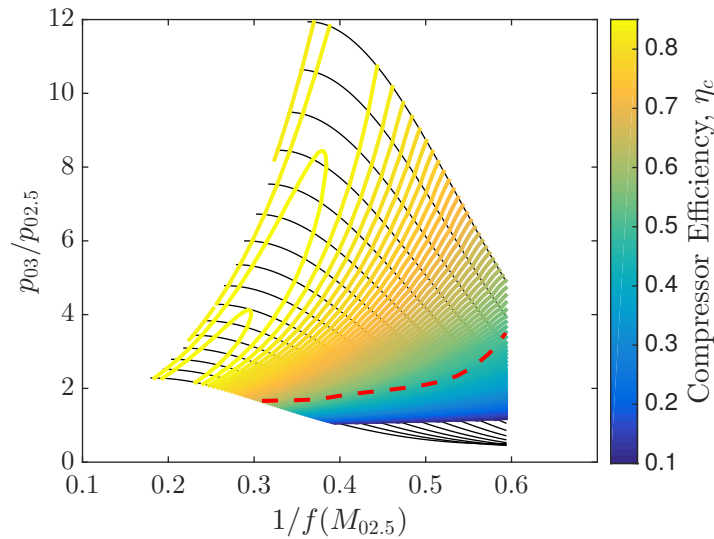

Figure 5: Compressor map.
d)[7 pts] The compressor and turbine maps are shown in Figure 5 and 6 respectively. The operating line is shown by the red dashed lines one each plot.